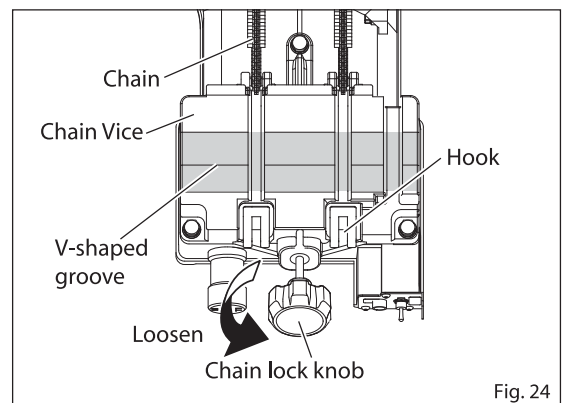
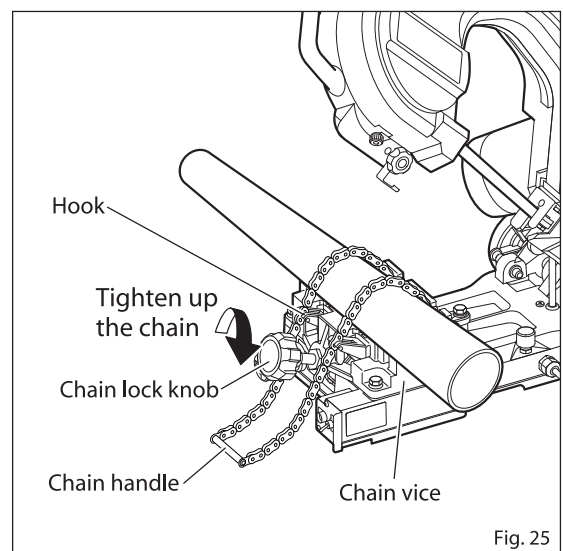

Fig. 24
Fig. 25
(Fig. 24~Fig. 25)
- (1) Turn the chain lock knob anti-clockwise and raise the hook to its highest point. (Fig. 24)
- (2) Place the chain in the wells behind the vice. (Fig. 24)
- (3) Place the workpiece on the V-shaped groove on the chain vice. (Fig. 24)
- (4) Hold the chain handle and pull the chain over the hook. (Fig. 25)
- (5) Turn the chain lock knob clockwise, tighten the chain and fix the workpiece securely in place. (Fig. 25)